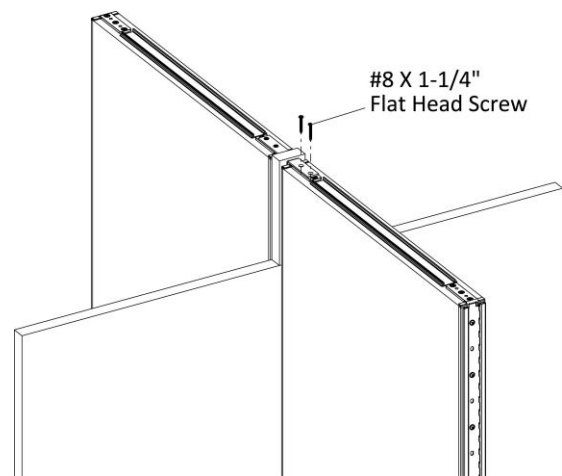

Figure 5
- Follow **Steps 6 and 7** to install the other standard panel, (Figures 5 & 6).